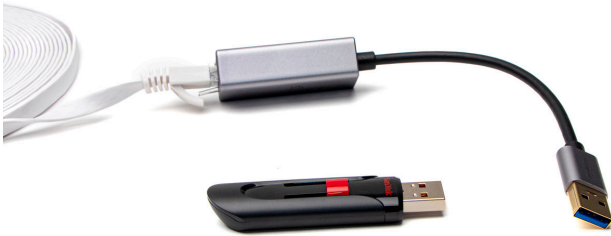

Fig. 1—The EVA-AC-03-01 kit includes the cable, the adapter, and the thumbdrive with software.
1. Use an EVOM™ Auto Wired Connection Kit (WPI# EVA-AC-03-01) to configure the ethernet access for an EVOM™ Auto System with 24 and 96 well plate capabilities (Fig. 1).